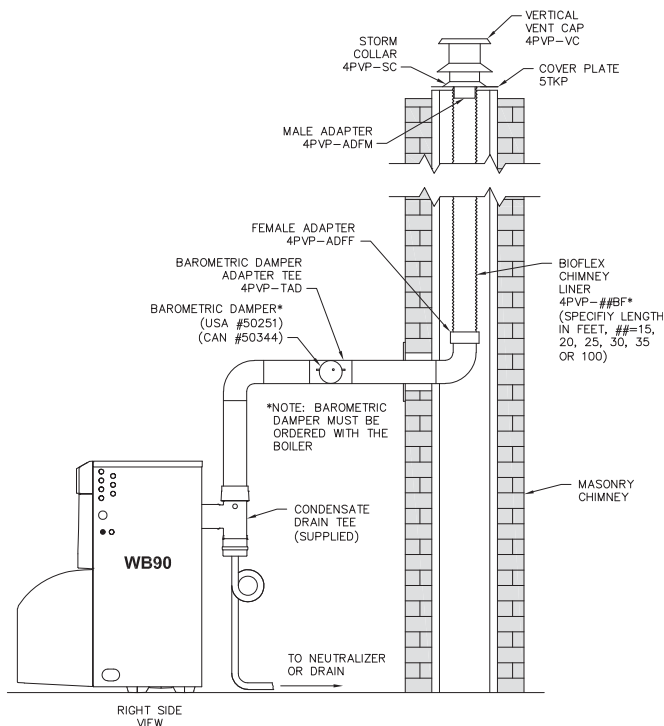

Figure 3.1: Vertical Venting with Stainless Steel Chimney Liner
4. See Figure 3.1 for a typical vertical chimney venting illustration. Contact a DuraVent representative for specific venting questions.